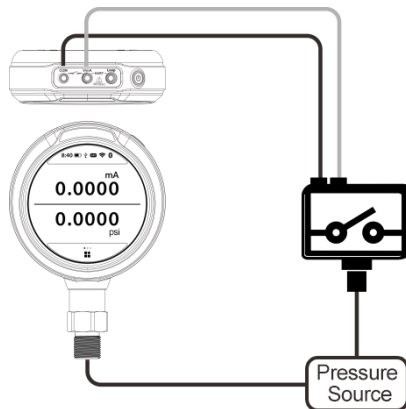

Figure15 Calibrate Pressure Switch
- (1) The air and circuit connection between pressure switch and calibrator are shown in Figure15 (in the Figure it is mechanical switch).